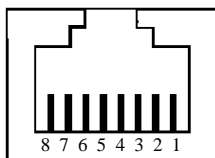

Figure 11 RJ45 Port
- Pins of the 10/100Base-T(X) RJ45 port
Figure 11 shows the pin numbers of the 10/100Base-T(X) RJ45 port.